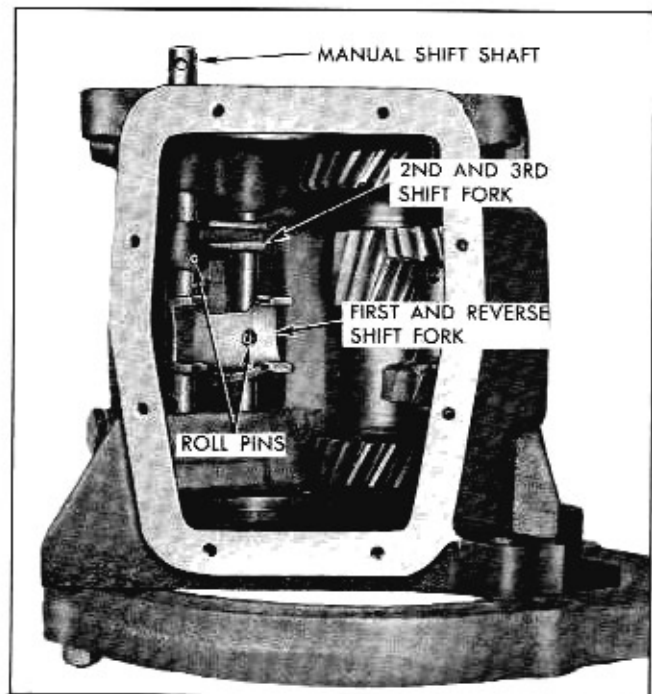

Fig. 7-27 Transmission Shift Forks
10. With suitable punch, drive out roll pin securing second and third shift fork (Fig. 7-27) to shaft. Then